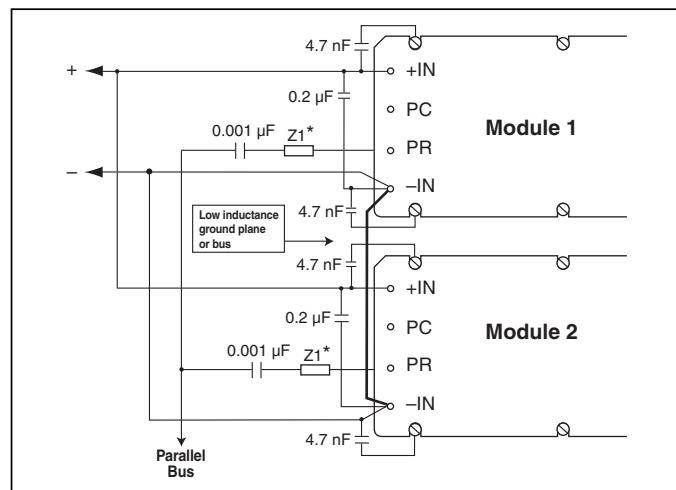

Figure 9 — AC coupled single-wire interface.
*AC coupled single-wire interface.* All PR pins are connected to a single communication bus through 0.001  $\mu$ F (500 V) capacitors. This interface supports current sharing and is fault tolerant except for the communication bus. Up to three converters may be paralleled by this method. See Figure 9.